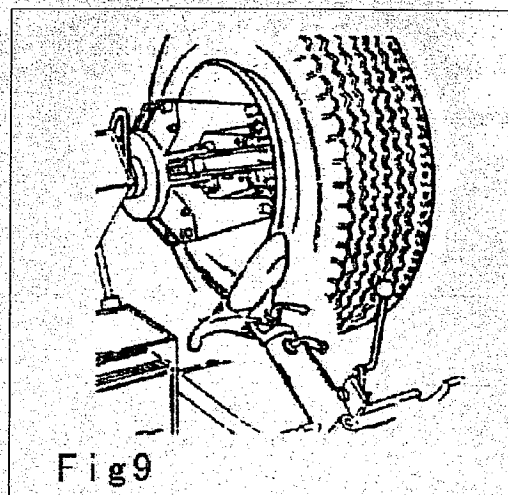

Fig 9
All the following operations must be carried out with the tool-holder (fig. 9) out of work.
(6) Move the disk (12) away from the bead, release the jack (10), lift the arm out of work, move the disk (12) to the inner side.
(7) Repeat the operations, until the second bead is completely detached.(fig 9).